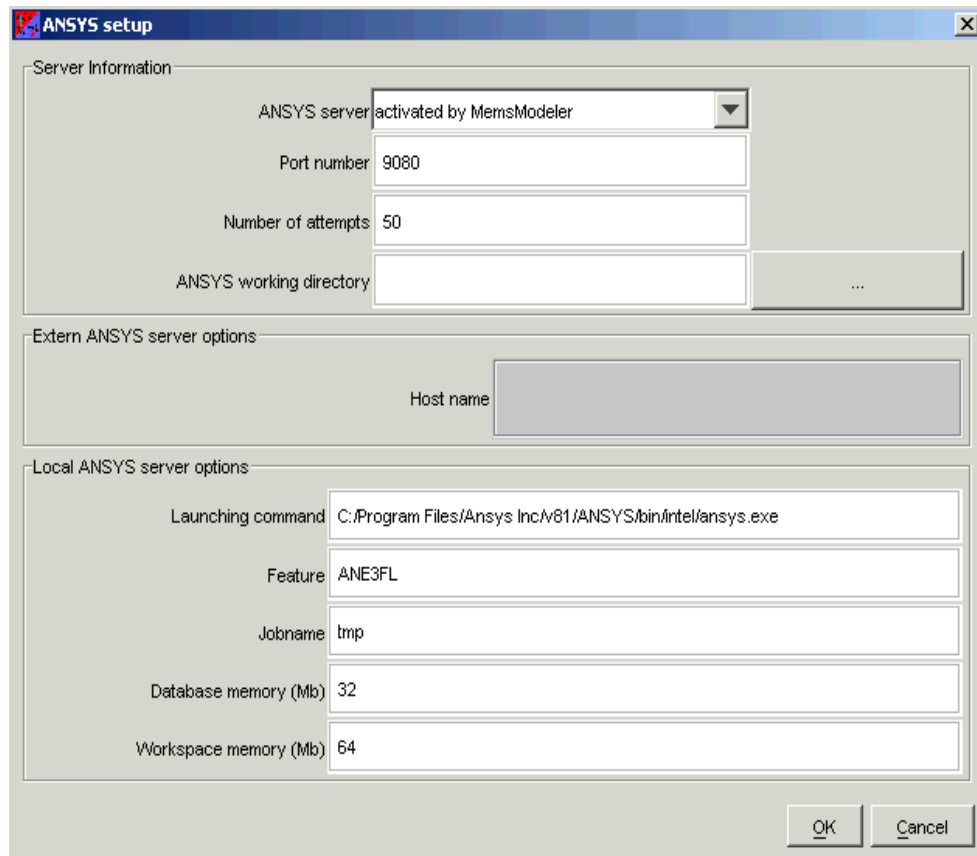

Figure 111: ANSYS Setup
- ☑ To configure ANSYS settings, click **Setup->ANSYS** to open the **ANSYS setup** dialog (Figure 111).